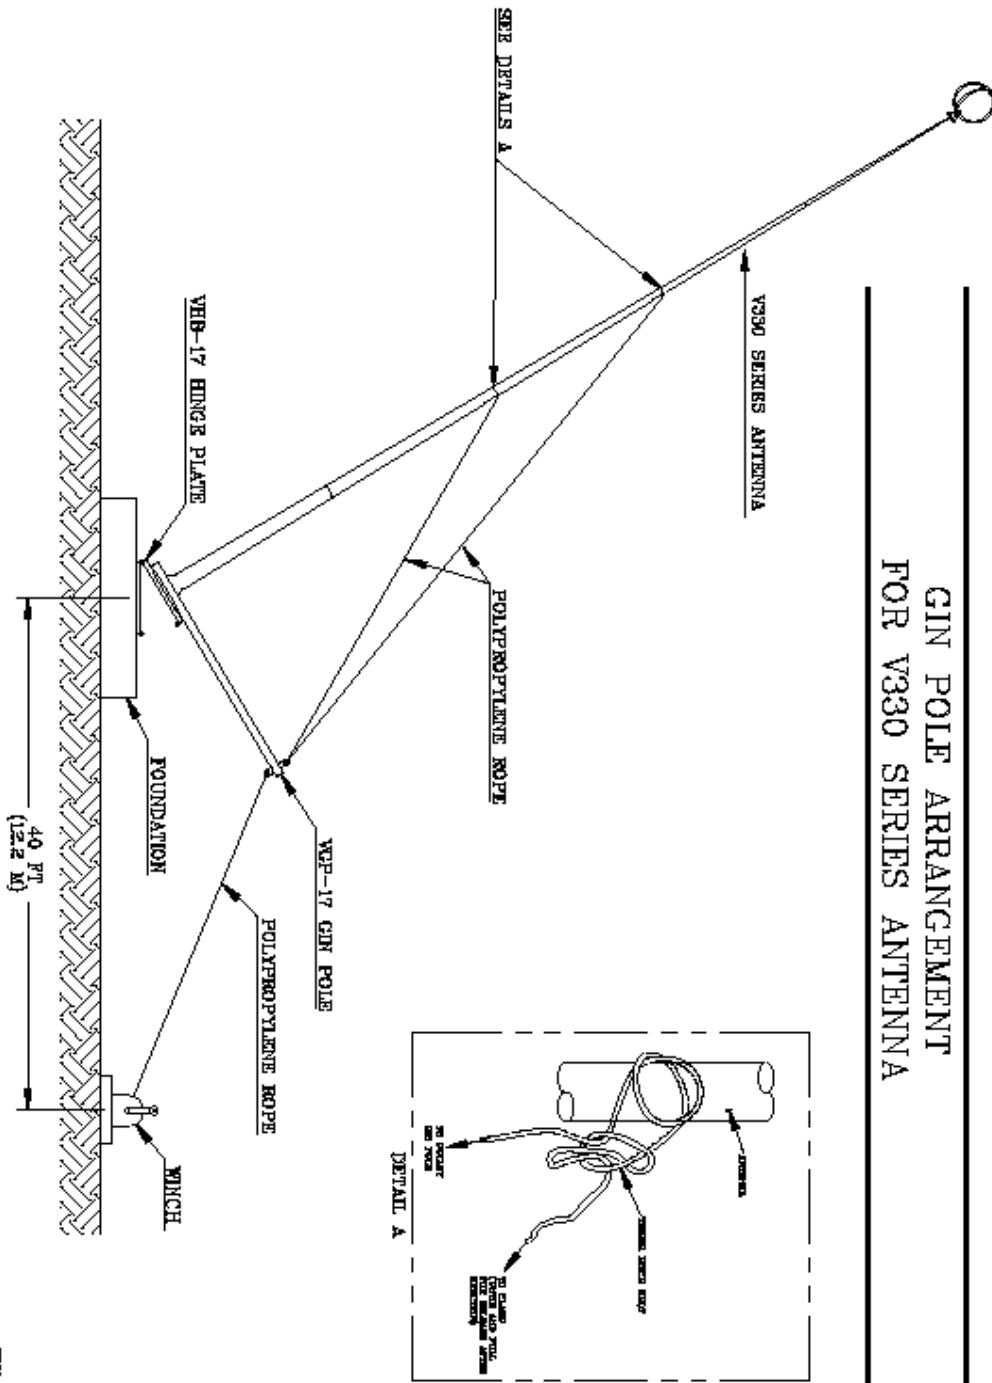

Figure 4.1 - Gin Pole Arrangement for V330 Series Antennas
The following steps should be followed to assemble the V33070-CL2 antenna (see Figure 4.1).
- (6) Support the second section (item 2, Table 5.1) on the other two saw horses so that the two sections lie in the same straight line.
- (7) Make sure the threads of the male ferrule on the base section are clear of foreign material and free of burrs.
- (8) Assemble the second antenna section onto the base section and tighten to align the arrows at the joint using the strap wrench supplied (item 7, Table 5.1).
- (9) Assemble the third section (item 3 , Table 5.1) to the second section by repeating steps 6 to 8.
- (10) Assemble the fourth section to the third section by repeating steps 6 to 8.
- (11) After all sections are assembled, assemble the Valcosphere to the top of the fourth section.
- (12) The antenna now is ready to raise to its final position.
- (13) Tie one rope (from gin pole eye) to the position on antenna specified on Figure 4.1. A timber hitch knot is recommended to prevent slipping.
- (14) Erect antenna by applying a gradual and constant pull on the rope referred to as the “Pulling Force” (a winch or vehicle is recommended).
- (15) Once the antenna is in the vertical position, insert retainer pin back into hinge plate, secure with tension pin. Use bolts (supplied) to secure upper and lower plates of the hinge plate together.
- (16) Electrical connections can now be made.